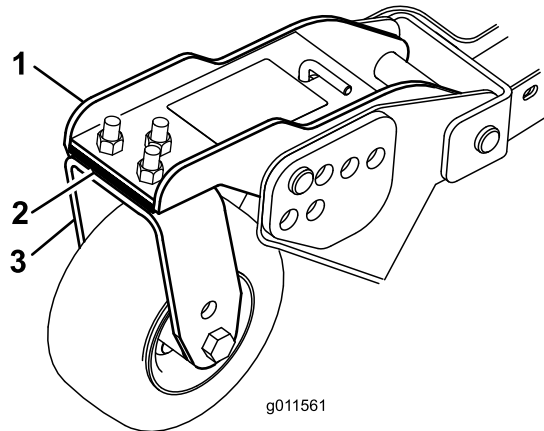

Figure 27
3. Adjust the shims (3 mm or 1/8 inch) on front caster arm(s) to match the height-of-cut decal (Figure 27).
remove a 3 mm (1/8 inch) shim from the bottom of the front, inside caster arm on the wing mower deck (Figure 27).